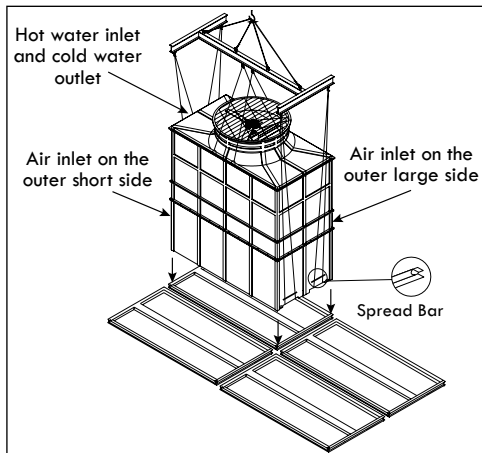

Figure A-103: X-Orientation - First T2 module lifting and installation (RTGM and RTGMT-C Models)
- B. Make sure that the water inlet and outlet are facing outward, and the sides without air inlets (louvers) are facing inward. Secure it with the stainless steel nut and bolts sets (supplied by others) as shown on Figure A-103.